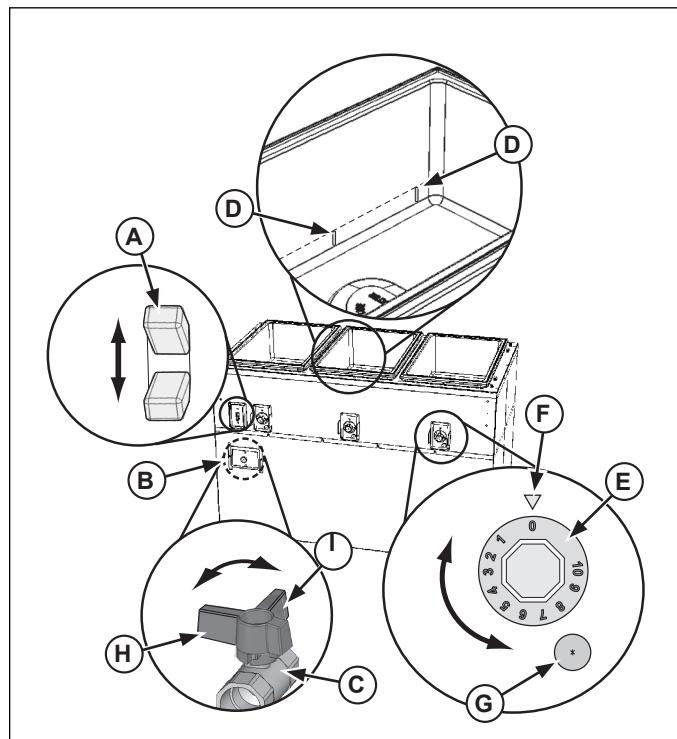

Figure 2. Deluxe Hot Station Controls
- (A) **ON/OFF** switch. Set switch to the up position for "ON". Set switch to the down position for "OFF". The switch will illuminate when in the "ON" position.
- (B) **ACCESS DOOR** for drain valve. Open or remove to access the drain valve.
- (C) **DRAIN VALVE**. Used to empty water from the well(s).
- (D) **WATER LEVEL MARKS**. Used to indicate the correct water level.
- (E) **TEMPERATURE CONTROL** dial. Used to set or adjust the temperature of the well. The larger the number the higher the temperature, the smaller the number the lower the temperature. The "0" position is off.
- (F) **DIAL REFERENCE** indicator. Used to show what position the temperature control is set at.
- (G) **LOW WATER** light. Illuminates when the well needs water. If the light illuminates during operation, clean fresh water must be added to the well.
- (H) **DRAIN VALVE CLOSED** position. When the valve is in this position the drain is closed.
- (I) **DRAIN VALVE OPEN** position. When the valve is in this position the drain valve is open.
1. Open the valve access door (B) and check that the drain valve (C) is in the closed position (H). See Figure 2.
2. Fill the well to the correct level marks (D) with clean fresh water. Correct level is about 1" (2.5 CM) of water. Do not over fill.
4. Preheat the water in the wells by covering wells with empty food containers or covers. Turn the power switch (A) to the "ON" position and set the heat control(s) (E) to the maximum setting. Preheat for 45 minutes. The water will be boiling.
7. Set the heat control(s) (E) to maintain proper hot holding temperature for food safety. Regularly check food temperature.
- (D) **DRAIN VALVE CLOSED** position. When the valve is in this position the drain is closed.
- (E) **DRAIN VALVE OPEN** position. When the valve is in this position the drain valve is open.
1. Open the valve access door (A) and check that the drain valve is in the closed position (D). See Figure 2.
3. Turn the power switch (A) to the "ON" position. This unit does not have an adjustable temperature setting. Allow the unit to run for approximately 30 minutes. For the best performance when using ice with this unit, allow unit to run for approximately 2 hours before adding ice. This will help the ice remain solid.